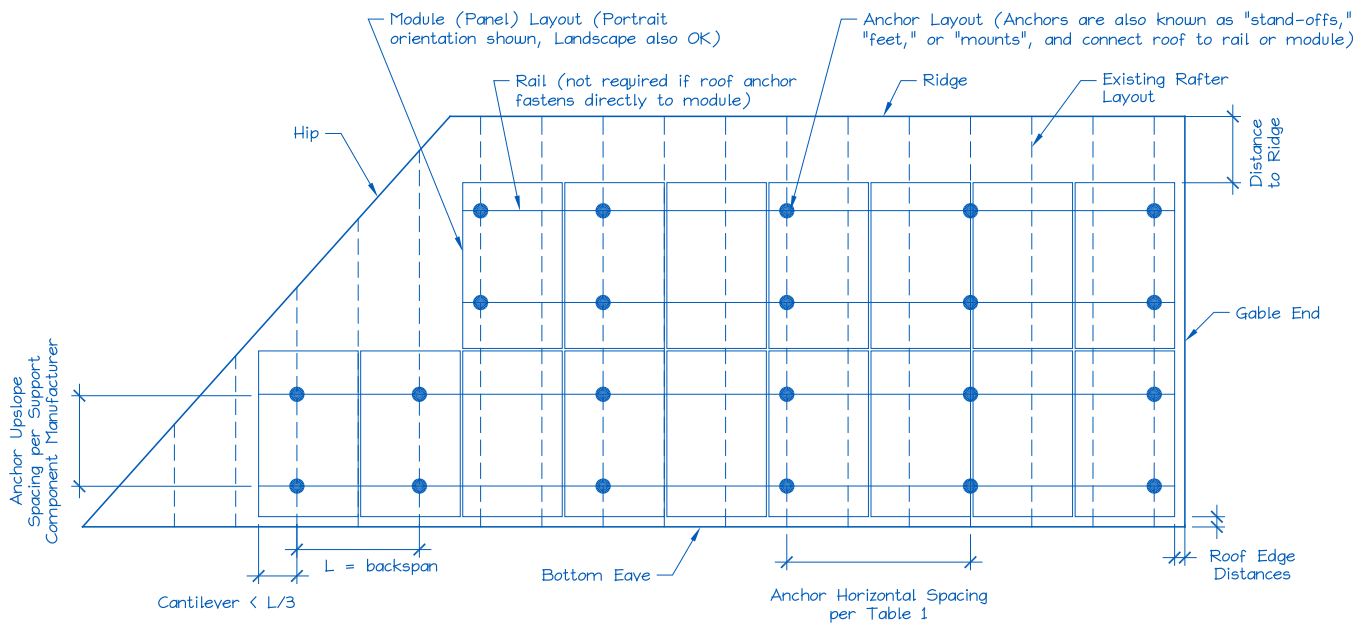

Figure 2. Sample Solar Panel Array and Anchor Layout Diagram (Roof Plan).
E. Is a roof plan of the module and anchor layout attached? (see Figure 2) ☐ Y ☐ N
- 1) Proposed anchor horizontal spacing (see Figure 2): _____' - _____"ft-in
1. Anchors are also known as "stand-offs", "feet", "mounts" or "points of attachment". Horizontal anchor spacing is also known as "cross-slope" or "east-west" anchor spacing (see Figure 2).